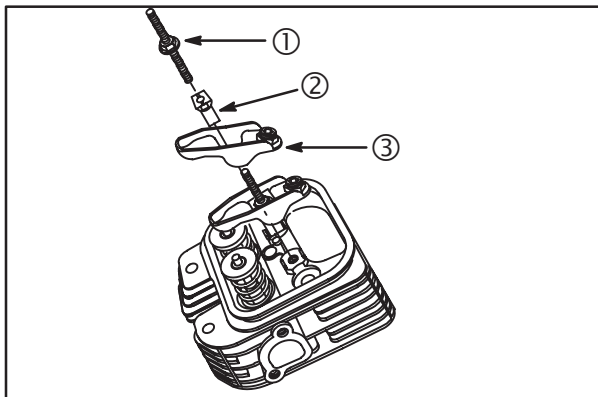

Fig. 21
1. Lubricate rocker arm supports (2) with clean engine oil.
2. Assemble rocker studs (1), rocker arm supports and rocker arms (3) to cylinder head, **Fig. 21**. Torque studs to **100 in. lbs. (11 Nm)**.